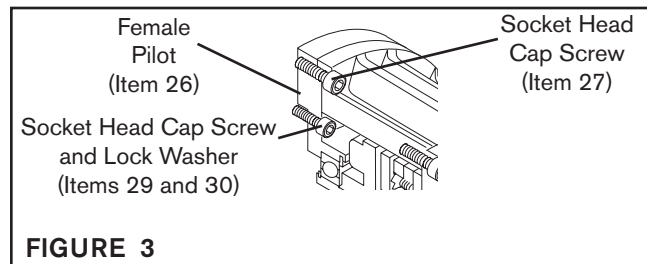

FIGURE 3
7. On Models 875, 1125 & 1375, first remove the Socket Head Cap Screws (Item 27) and Female Pilot (Item 26); then, secure the Female Pilot to the motor face using Socket Head Cap Screws (Item 29) and Lock Washers (Item 30). Tighten them to recommended torque (See Table 1 and Figure 3).
On Model 875, secure the Housing (Item 1) to the Female Pilot (Item 26) using Socket Head Cap Screws (Item 27) and tighten them to the recommended torque (See Table 1 and Figure 3).